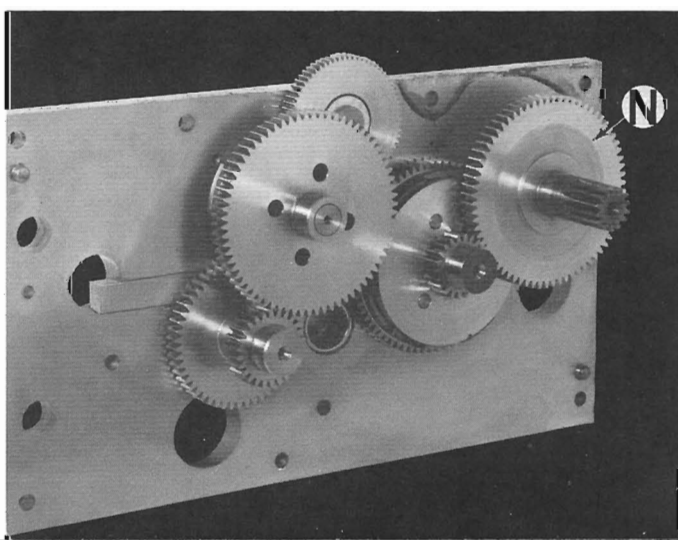

Figure 112 — Apron Cover Assembly
9. Remove rack pinion and 70 tooth gear "N", Figure 112.
9. Replace rack pinion and 70 tooth gear "N", Figure 112.